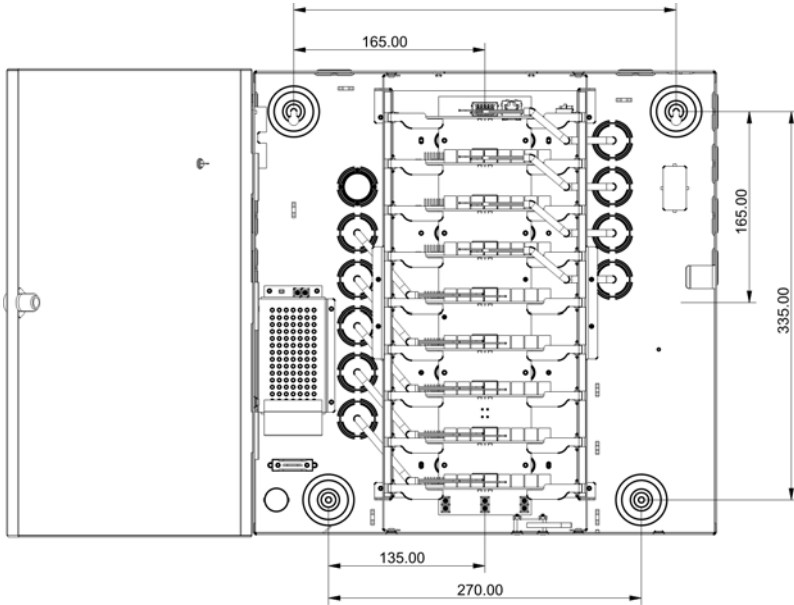

Figure 36: ME-00 Mounting Template
1. Using the holes dimensions and locations shown in Figure 36, on page 46 drill holes in the wall.